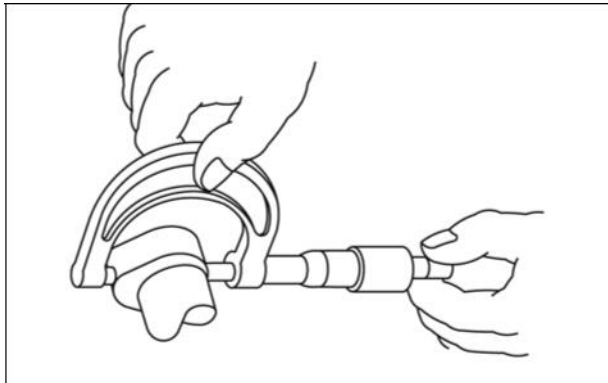

Figure 11
1. Measure camshaft lobe height (Figure 11). If lobes are not to specification, replace the camshaft.